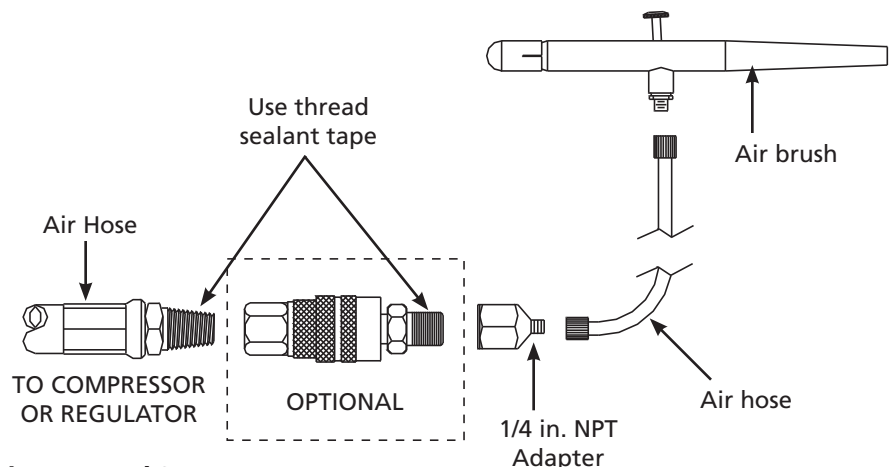

Figure 1 - Tool Set-up
1. Assemble tool with one of the two methods shown in Figure 1.